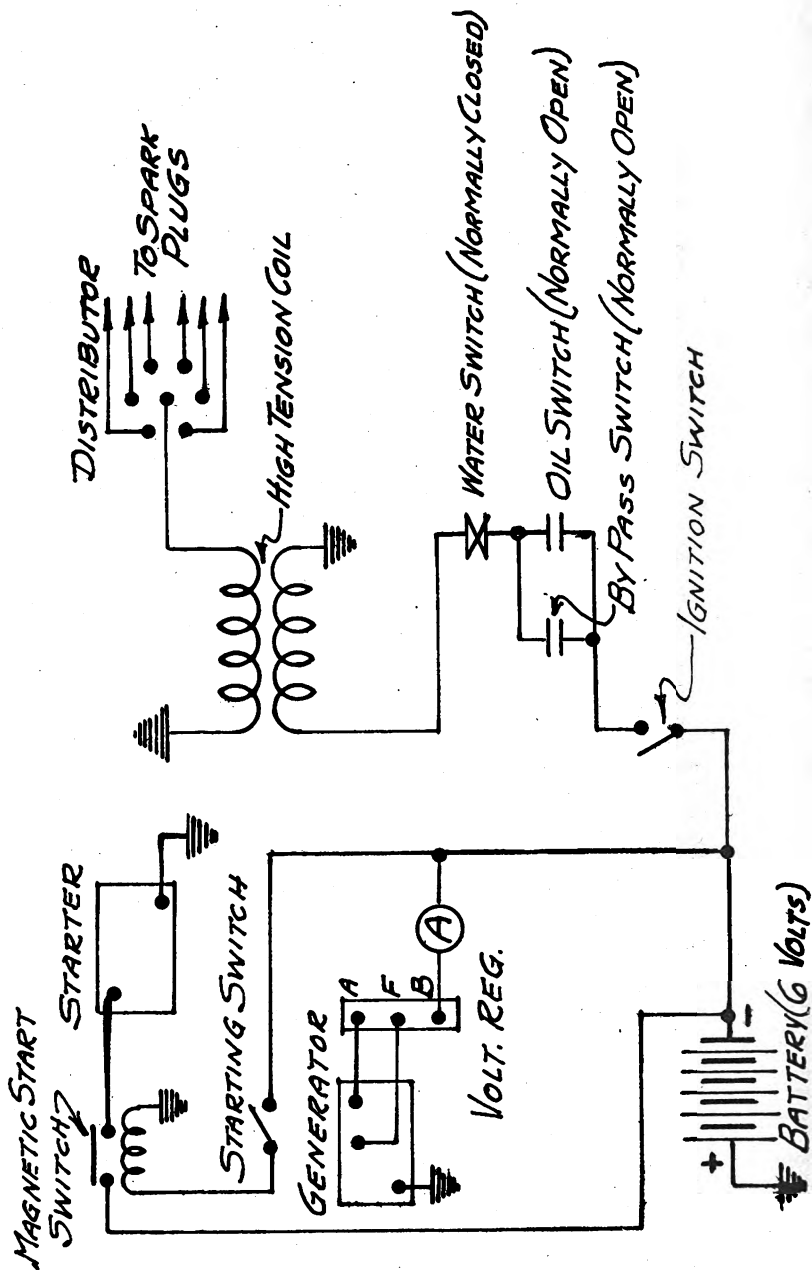

Figure 8. Schematic diagram of the engine electrical circuit.
b. **Distributor (fig. 2 [K]).** The distributor interrupts the battery current in the primary circuit of the high-voltage coil, and routes the secondary high voltage to the six spark plugs at the proper firing sequence of 1, 5, 3, 6, 2, 4. Refer to figure 8 for details of the wiring system.
The starting motor is similar in construction to the charging generator. Both have a frame, field coils, armature, and brushes. However, the operating principle is reversed. When the storage battery is properly connected to the motor circuit, magnetic fields are set up in the armature and field which cause the armature to revolve with sufficient power to crank the engine. The battery is connected to the starter motor by the solenoid switch (fig. 8) which is controlled by the starting button on the engine control panel. Driving connection with the flywheel of the engine is made by a Bendix drive. This drive is so designed that, as the starting motor quickly accelerates, a counterweighted drive pinion is made to engage with the teeth of the flywheel ring gear. When the engine starts, and the speed of the engine exceeds the speed of the starting motor, the drive pinion is forced out of engagement with the flywheel.
**d. Ignition Switch [e].** The ignition switch, when pulled out, closes the primary circuit of the high-tension ignition coil through the breaker points which are located in the distributor (fig. 8).